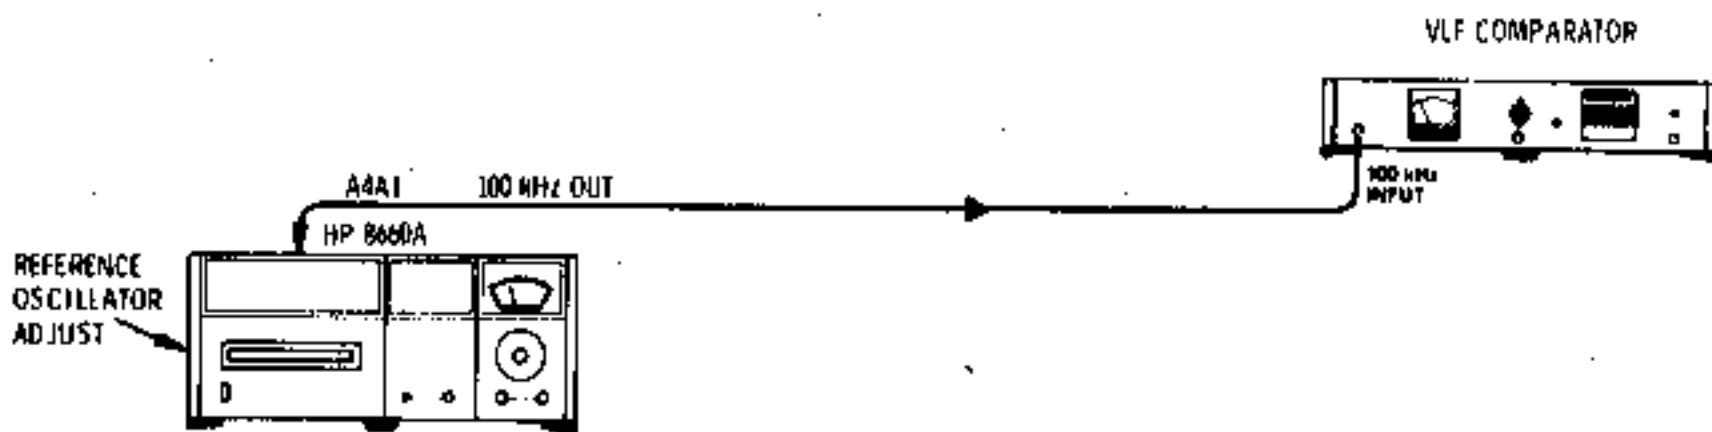

Figure 5-2. Reference Accuracy Adjustment Test Setup
1. Internal Reference Accuracy Adjustment (See Figure 5-2) (Allow adequate warm up time).